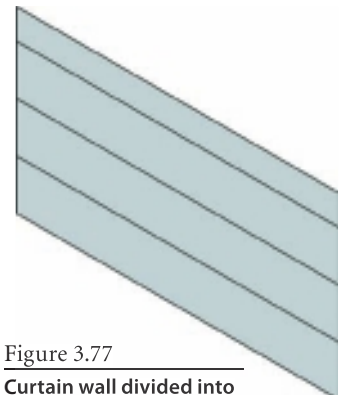

Figure 3.77
5. Click the OK button to close the Type Properties dialog box. Your curtain wall is now divided into four panels, as shown in Figure 3.77.